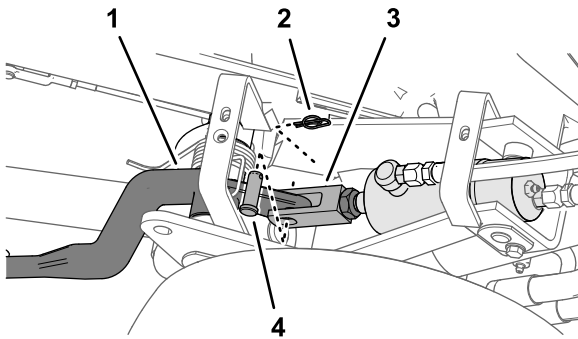
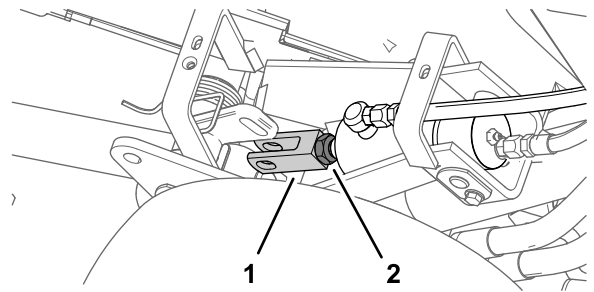

Figure 48
Figure 49
3. Loosen the jam nut securing the clevis fitting to the cylinder of the cutting-unit that needs to be adjusted (Figure 48).
4. Remove the retaining pin and clevis pin (Figure 48).
5. Rotate the clevis until you attain the desired height (Figure 49).
6. Assemble the clevis fitting to the lift arm with the clevis pin and retaining pin, and tighten the jam nut (Figure 48 and Figure 49).